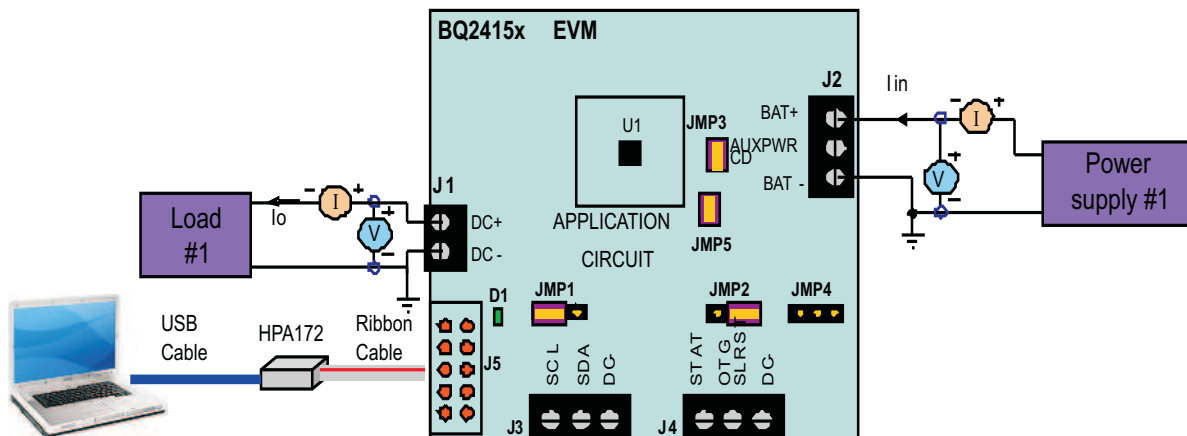

Figure 4. Test setup for HPA256
2. Set the Load #1 current to $200\text{mA} \pm 20\text{mA}$ but disable the output. Connect the output of the Load #1 in series with a current meter (multimeter) to J1 (DC+, DC-). Make sure a voltage meter is connected across J1 (DC+, DC-). The setup is now like Figure 4 for HPA256.